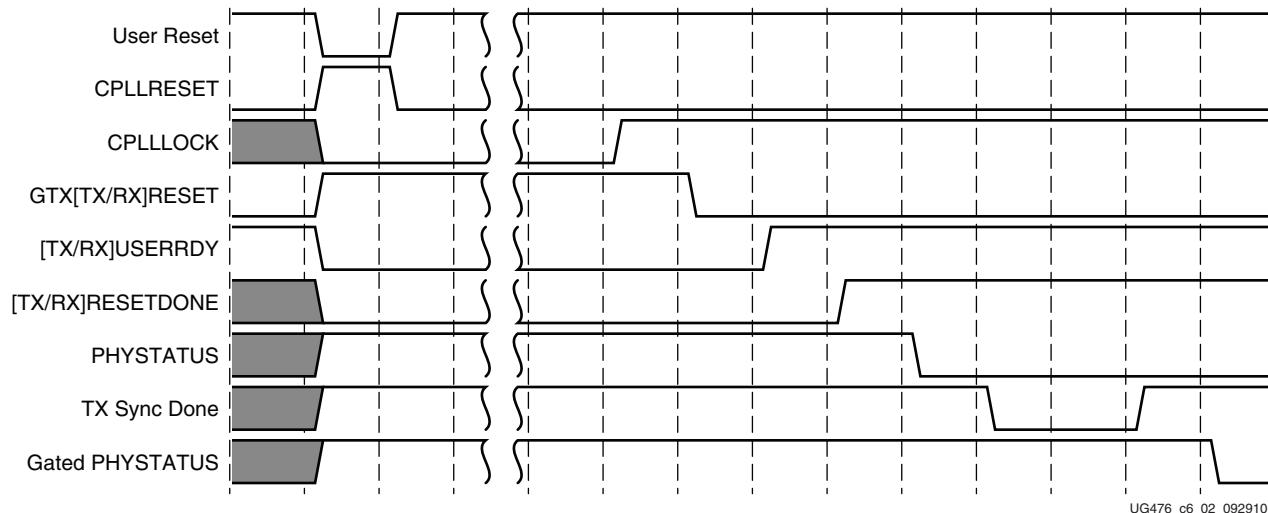

Figure 6-3: PCI Express Reset Example
The GTX/GTH transceiver powers up in Gen1. After reset, PCLK must be stable. The timing diagram in Figure 6-3 shows a PCI Express reset example. In the figure, user reset, TX sync done, and gated PHYSTATUS are example fabric user signals.
Notes relevant to Figure 6-3:
1. The sequence of events in Figure 6-3 is not drawn to scale.